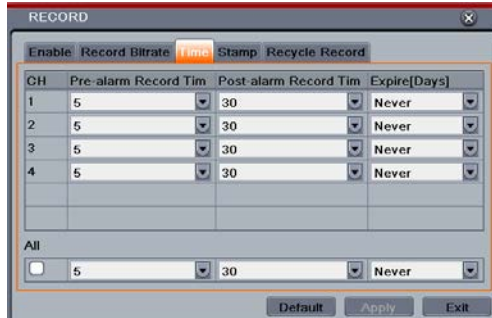

Fig 5-12 Record Configuration-Time
Step 1: Enter into Menu→Setup→Record → Time interface to set recording time. Refer to Fig 5-12: